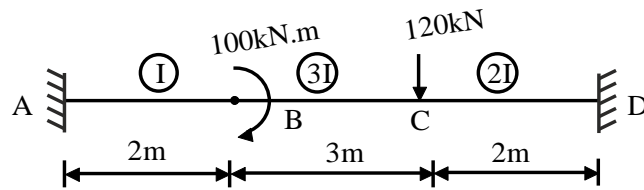

Fig. 6
6. a) Analyse the fixed beam as shown in fig. 6 by column analogy method.